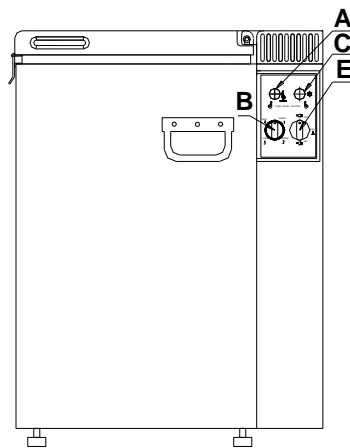

Figure4
The refrigerator can be run on either AC 220-240 V or Propane gas or DC12V. Switching among these modes of operation is carried out by means of control buttons positioned as shown in fig. 4. The refrigerator temperature is controlled by a thermostat (B). The refrigerator is fitted with a safety device which automatically shuts off the supply of gas if the flame goes out. The safety device can be opened manually by depressing button (A). If the burner is working the flame indicator (D) pointer will be in the green field.
When connecting the appliance for the first time, set the thermostat to maximum (Figure 4.B); Then, after about 5 hours, set it back a medium position .This is suitable for general refrigeration requirements.